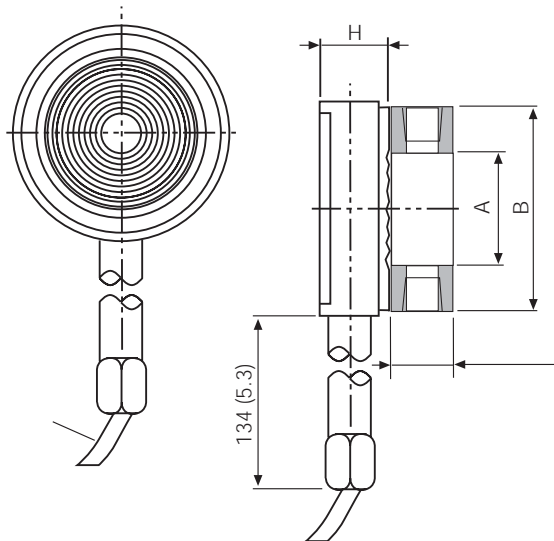

Fig. 12 - Wafer / Pancake style remote seal
The wafer remote seal is designed to be clamped between two ANSI or EN raised face flanges. The diaphragm side of the seal faces the process flange and a back-up flange is used on the other side of the seal. The S264W or S364W wafer seals can be used with: ANSI CL150, CL300, CL600, CL900 or CL1500 flanges as well as with EN DN 10-40, DN64-160. Mounting dimensions for the wafer remote seal (see Figure 12).
3. Clamp the seal between two flanges (see Figure 12). Be sure that the gasket is properly positioned between the process flange and the seal element gasket surface.